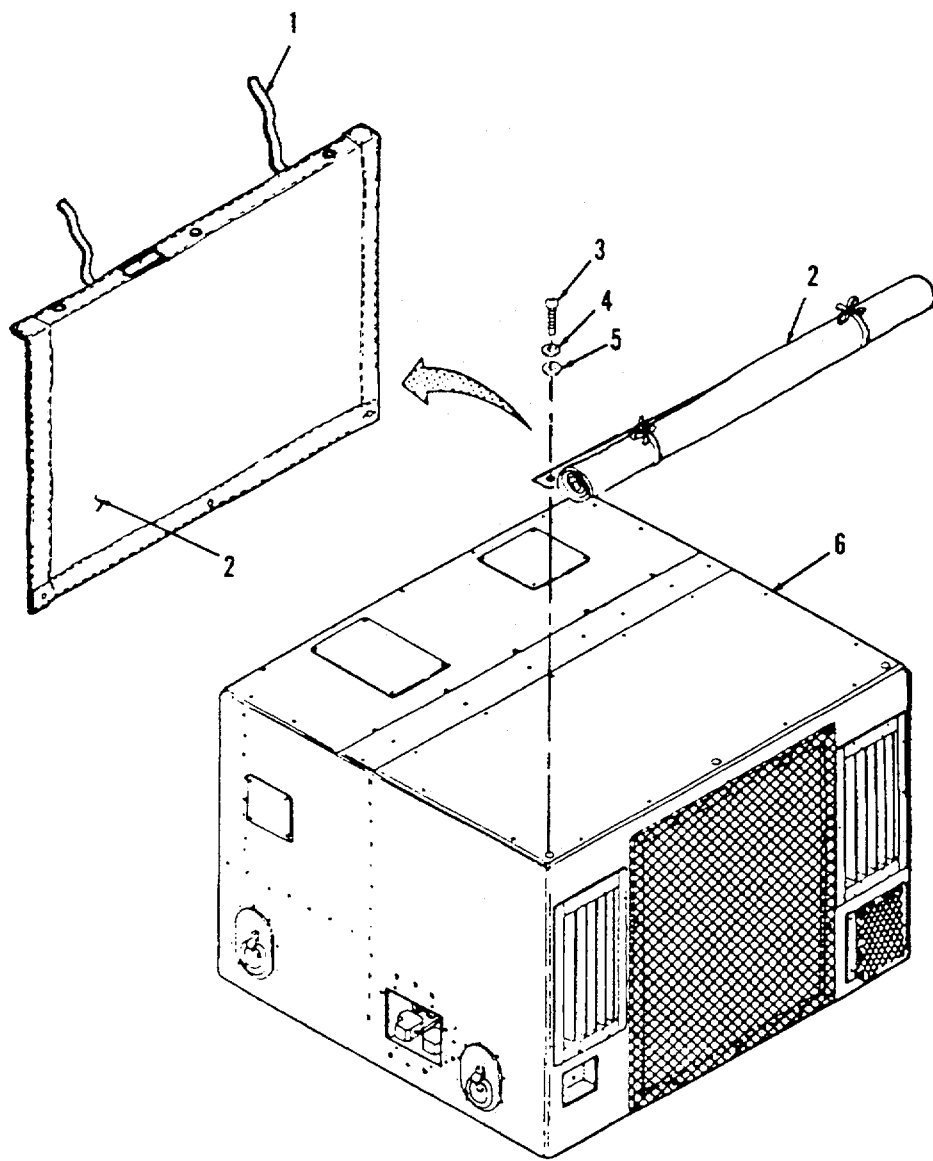

Figure 3-6. Fabric Cover.
**a. Removal.** (Refer to Figure 3-6).
- (1) Untie two straps (1) and roll down fabric cover (2).
- (2) Remove three screws (3), three lock washers (4), and three flat washers (5) attaching cover (2) to top of unit (6).
- (3) Remove fabric cover (2) from unit (6).